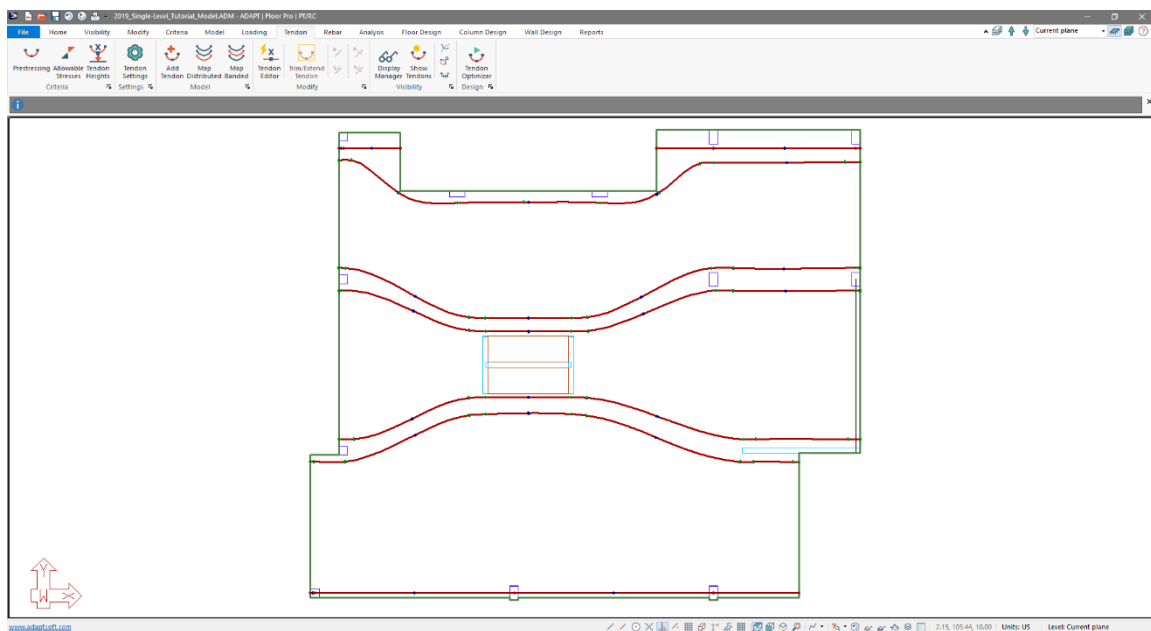

Figure 8-22
- Adjust the location of the swerve points to give the tendon a smooth curvature and make sure the tendon does not fall outside of the slab region. When done, the user's screen should look similar to **FIGURE 8-22**.